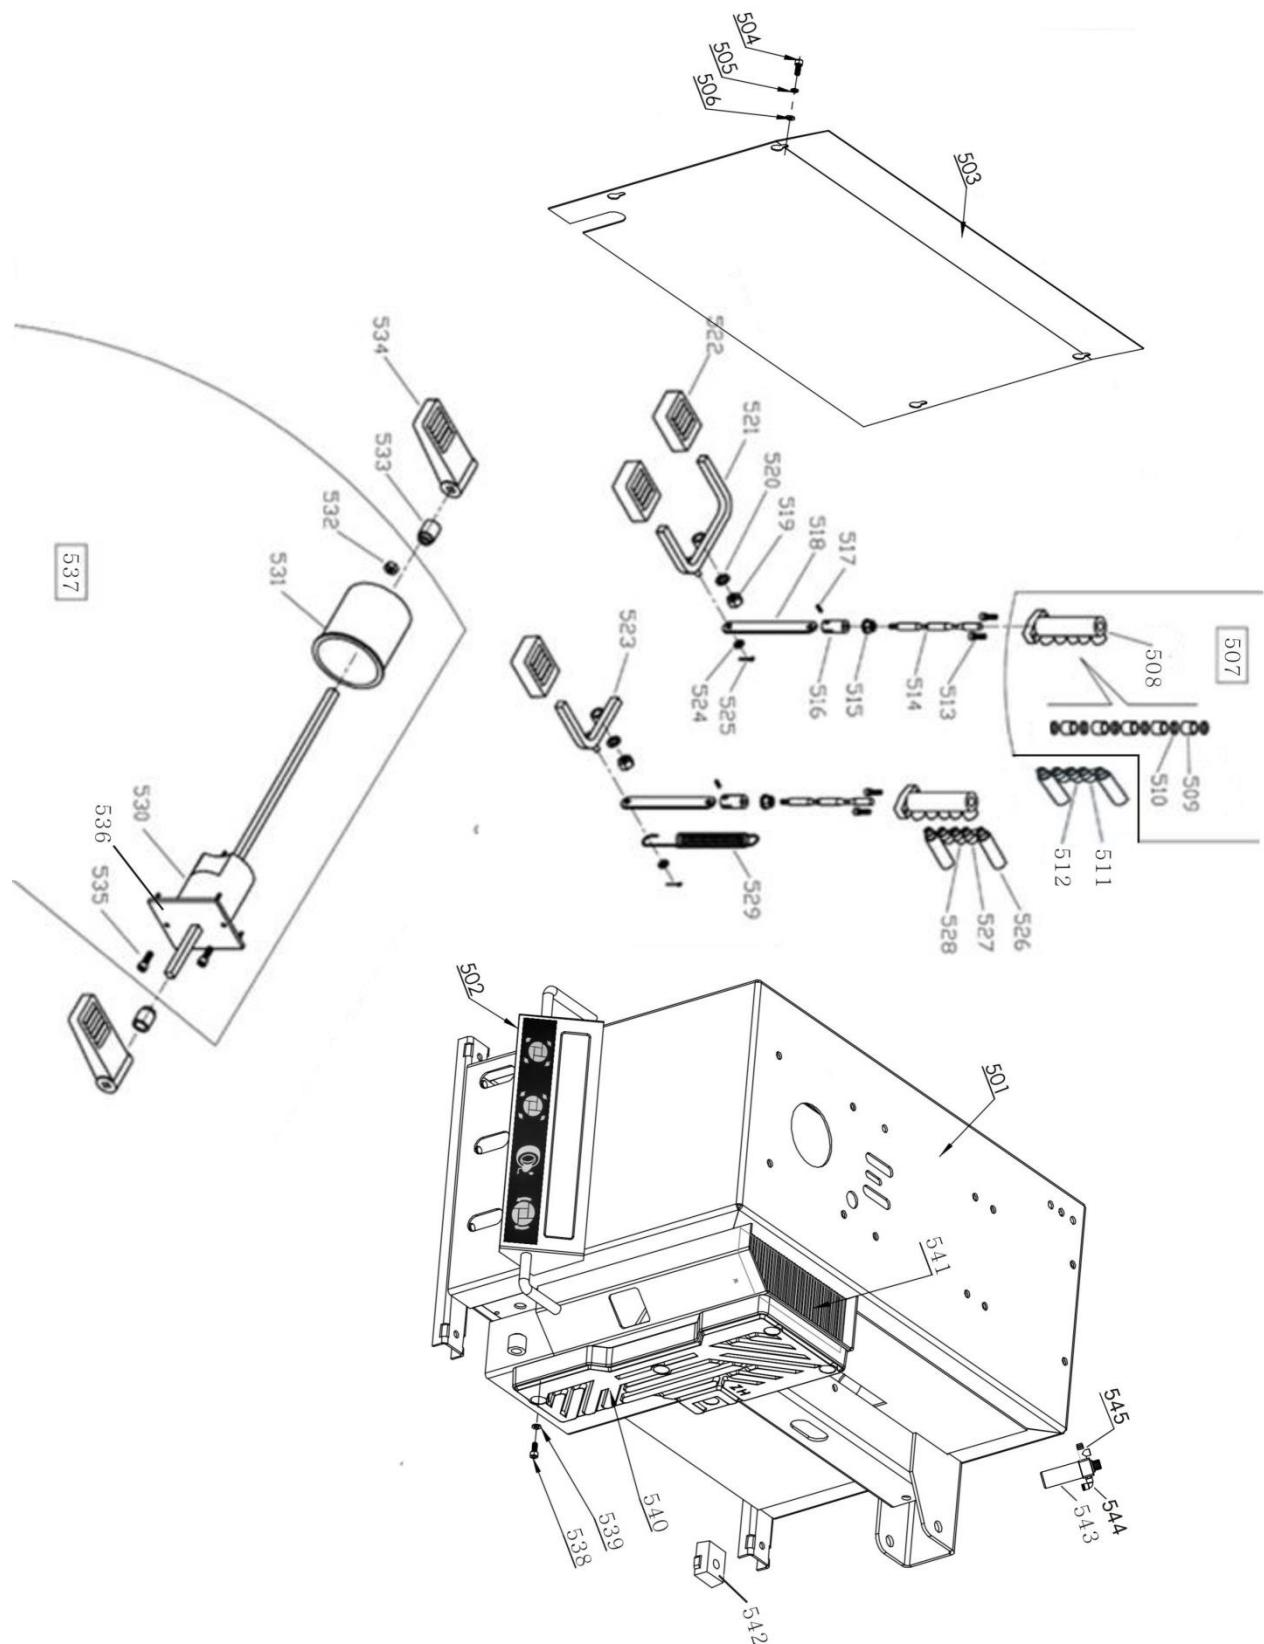

Fig. 37
**2065542 Part of body assembly (Fig.37)**